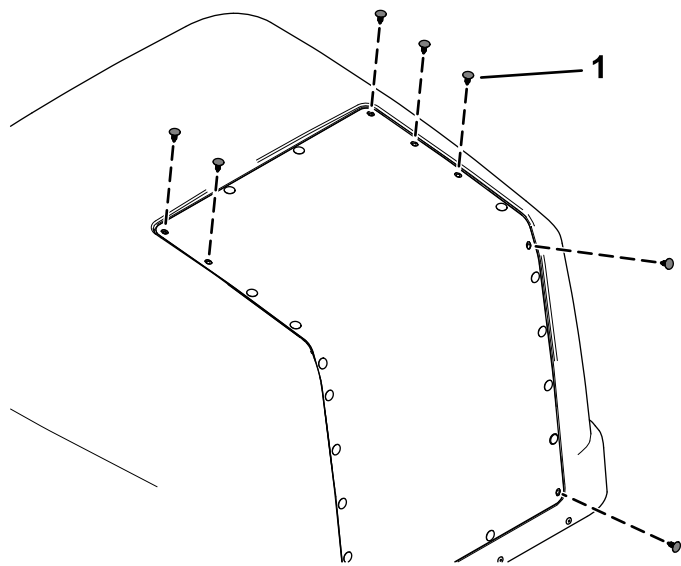

Figure 28
8. Remove the 7 plastic plugs shown in Figure 28 from the hood.